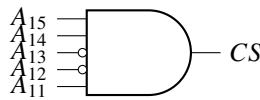

Fig. 3.29: Logic Diagram
46. The chip select logic for a certain DRAM chip in a memory system design is shown below in Fig. 3.29. Assume that the memory system has 16 address lines denoted by  $A_{15}$  to  $A_0$ . What is the range of addresses (in hexadecimal) of the memory system that can get enabled by the chip select (CS) signal? (GATE CS 2019 – 2)